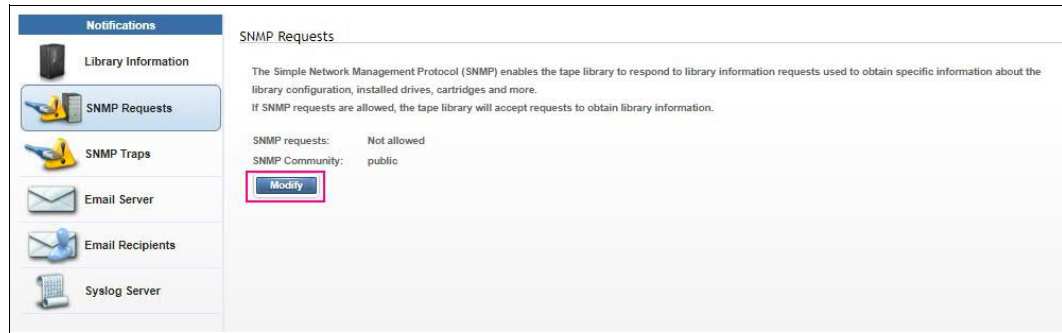
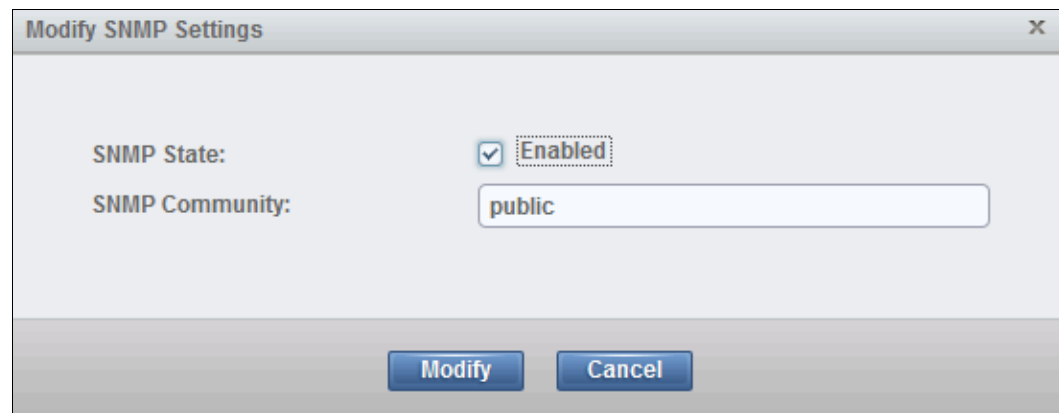

Figure 4-25 SNMP Requests
Figure 4-26 Modify SNMP Settings window
2. Under the **Notifications** menu, select **SNMP Requests** to display the current settings, as shown in Figure 4-25 on page 219.
3. To change the setting, select **Modify**, as shown in Figure 4-25, which opens the Modify SNMP Settings window, as shown in Figure 4-26.
To view or change the community name that is associated with the TS4500 Tape Library, click **Modify** in the Modify SNMP Settings page (see Figure 4-26).